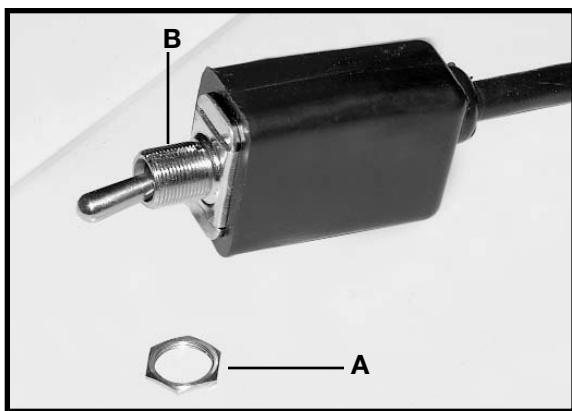

Fig. 5
3. Remove the outer hex nut (A) Fig. 5 from the switch (B).